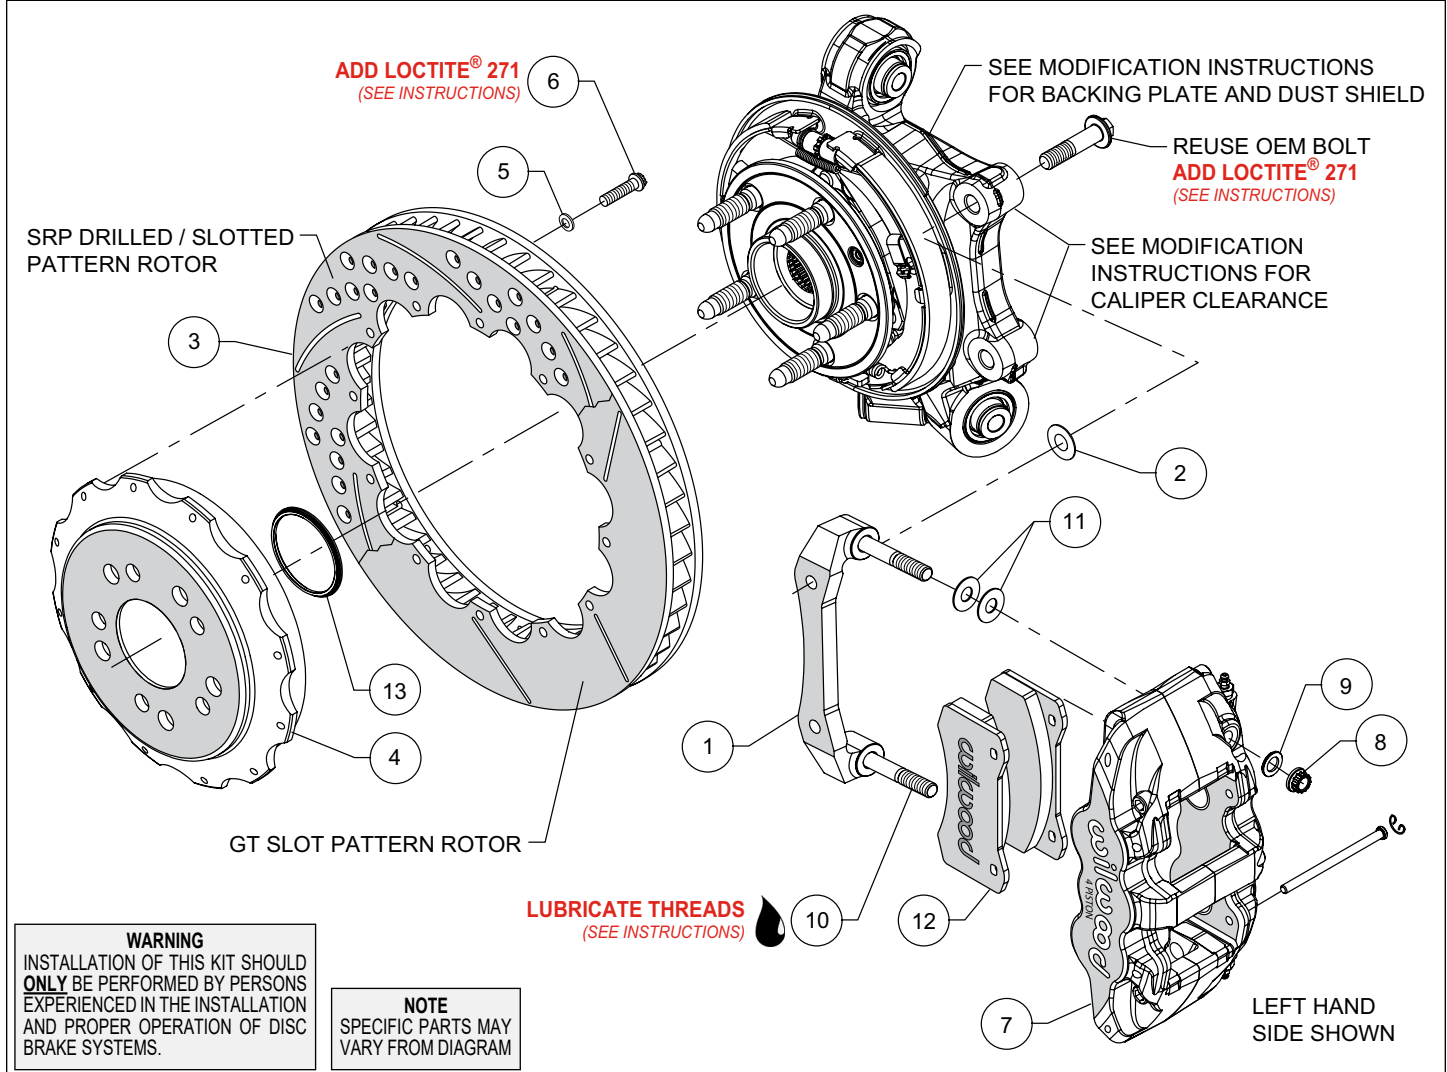
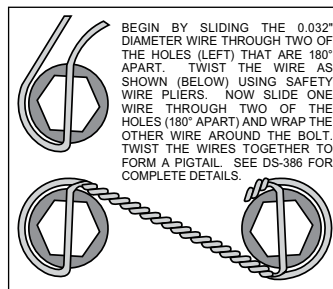

Figure 1. Typical Installation Configuration
Figure 4. Safety Wire Diagram
### Assembly Instructions (numbers in parenthesis refer to the parts list and Figure 1 on the preceding pages):
- The caliper mount bracket (1) should initially be installed with clean, dry threads on the mounting bolts. Orient the bracket as shown in Figure 1 and install using the saved OEM caliper mount bolts. Initially place one .033" thick shim (2), on each bolt between the bracket and upright, Figure 1 and Photo 1. Temporarily tighten the mounting bolts. **NOTE:** The bracket must fit squarely against the mount bosses on the upright. Inspect for interference from casting irregularities, machining ridges, burrs, etc. Later, after the caliper alignment has been checked, the mount bolts will be secured using red *Loctite*® 271.
- Orient the rotor (3) and the hat (4) as shown in Figure 1 and Photo 2. Attach rotor to hat using bolts (6) and washers (5). Apply red *Loctite*® 271 to the bolt threads and torque to 140 in-lb using a criss-cross pattern. For an added measure of security, the bolts may be safety wired using standard 0.032 inch diameter stainless steel safety wire as shown in Figure 4. Please refer to Wilwood's data sheet DS-386 (available at [www.wilwood.com/Pdf/DataSheets/ds386.pdf](http://www.wilwood.com/Pdf/DataSheets/ds386.pdf)) for complete safety wire installation instructions.
- Slide the rotor registration adapter (13) onto the axle register on the axle hub with the smaller O.D. facing outward, Photo 3. Align the correct hole pattern in the hat with the stud pattern on the axle hub and slide into place, Figure 1. **NOTE:** The hat must fit flush against the axle hub flange or excessive rotor run out may result. Install three lug nuts (finger tight) to keep the hat/rotor assembly in place while continuing with the installation. **CAUTION:** Some vehicles have long OEM caliper mount bolts
- Lubricate the caliper mounting studs (10) with lightweight oil. Initially place two .030" thick shims (11) on each stud between the caliper and the bracket, as shown in Figure 1 and Photo 4. Mount the caliper (7) onto the bracket (1) using lock nuts (8) and washers (9), Figure 1. Temporarily tighten the lock nuts and view the rotor through the top opening of the caliper. The rotor should be centered in the caliper, Photo 5. If not, adjust by adding or subtracting shims (2) between the bracket and the upright. Always use the same amount of shims on each of the two mounting bolts. Once the caliper alignment is correct, remove the bracket mounting bolts one at a time, apply red *Loctite*® 271 to the threads, and torque to 65 ft-lb.
- Remove the two pad retaining pins from the caliper (7) by carefully popping out the pin retaining clips and sliding out the pins. Insert the brake pads (12) into the caliper from the bottom, Figure 1 and Photo 6. With the friction material facing the rotor, secure the brake pads in place with the pad retaining pins and clips, Photo 7. Reinstall the caliper onto the caliper mounting bracket and temporarily tighten the lock nuts. Check that the top of the brake pad is flush with the outside diameter of the rotor, Photo 8. If not, adjust by adding or subtracting shims (11) between the caliper and the bracket. After the caliper pad height is set, torque the caliper lock nuts (8) to 47 ft-lb.